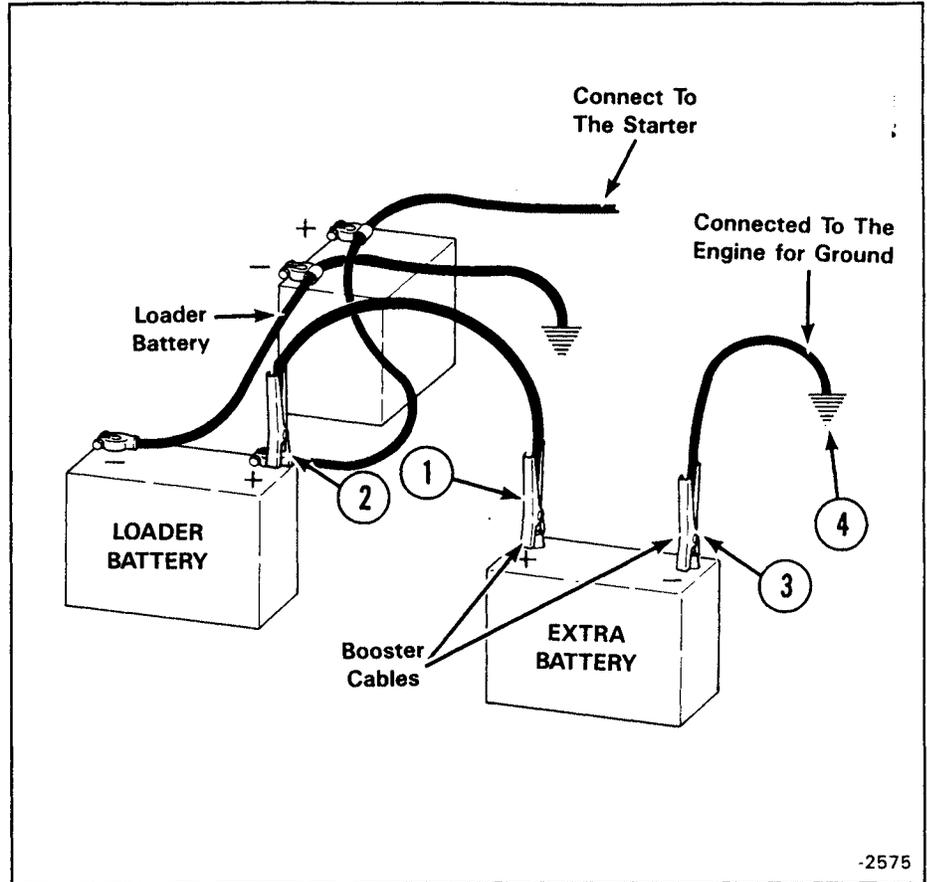

Fig. 1-25 Connecting the Extra Battery
(3) Connect the end of the first cable (Fig. 1-25, Item 1) to the positive terminal (+) of the booster battery. Connect the other end of the same cable (Fig. 1-25, Item 2) to the positive terminal (+) of the loader battery.
**NOTE:** Figure 1-25 does not show the batteries as they are located in the loader.
(4) Connect the end of the second cable (Fig. 1-25, Item 3) to the negative terminal (-) of the booster battery. Connect the other end of the second cable (Fig. 1-25, Item 4) to the engine. DO NOT connect the cable directly to the negative terminal (-) of the loader battery. This can cause a spark and destroy the battery and cause personal injury.
(5) Keep the cables away from moving parts.
(6) Start the engine.
(7) After the engine has started, remove the cable connected to the engine.
(8) Remove the cable from the loader battery post positive terminal (+).
(9) Install the rubber covers over the battery terminals.